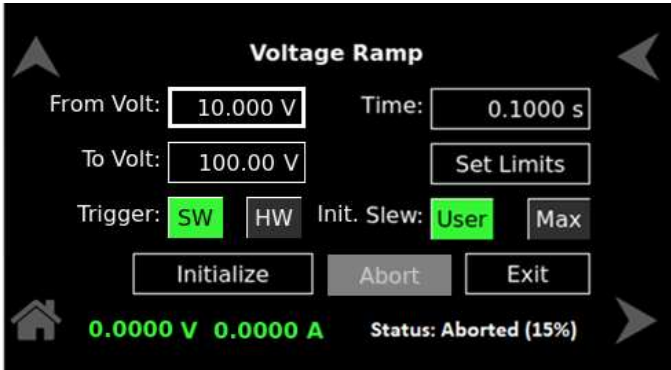

Figure 10-71. Status – Aborted
**e) Aborted:** When the process is aborted (Initializing, Waiting for Trigger, Running), 'Aborted' is displayed in the status. Refer to Figure 10-71.